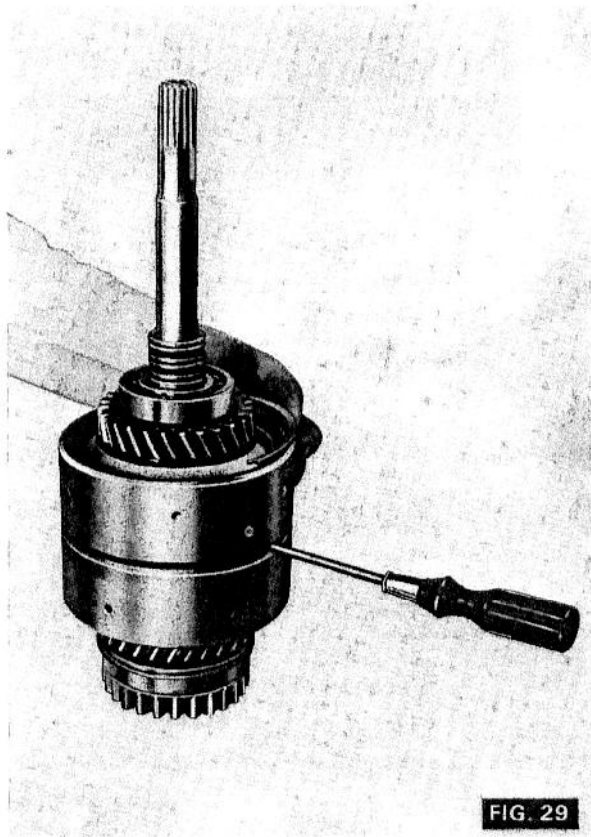

FIG. 29
20. (Fig. 29) Insert a screwdriver between the two clutch drums and lever the forward clutch upwards so that the large circlip can be fitted to retain the forward clutch cover in the drum.